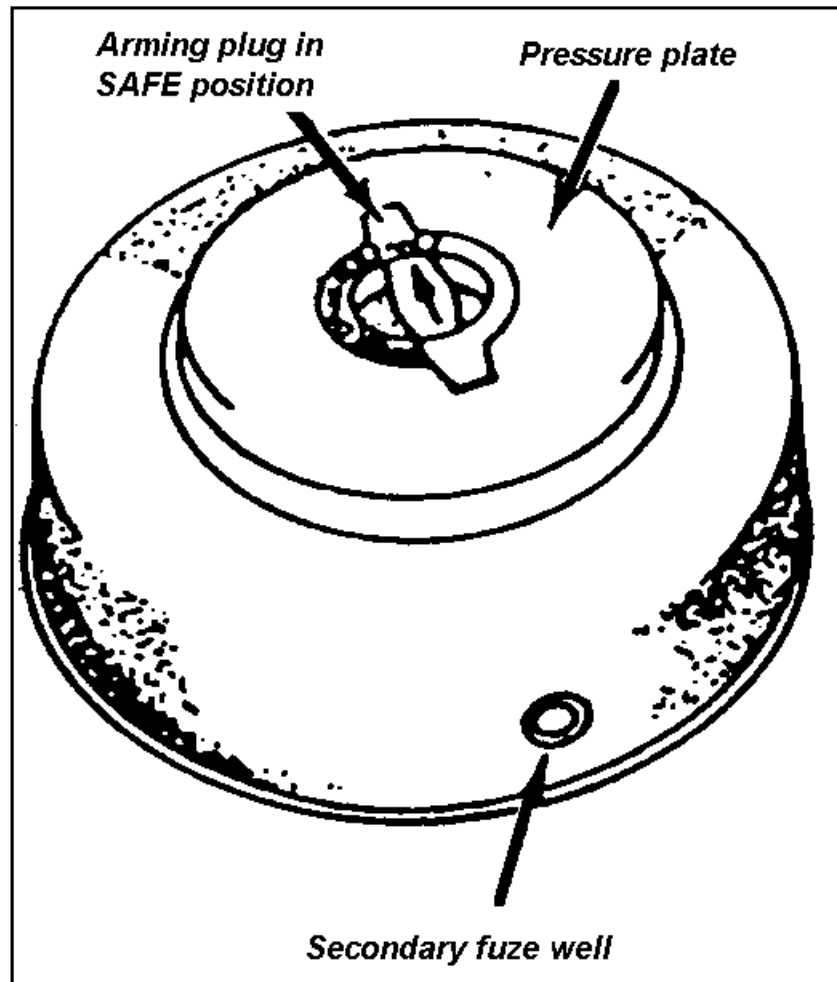

Figure 051-192-1107-1
- b. Use the M20 wrench, if needed, to unscrew and remove the arming plug from the mine (Figure 051-192-1107-1).